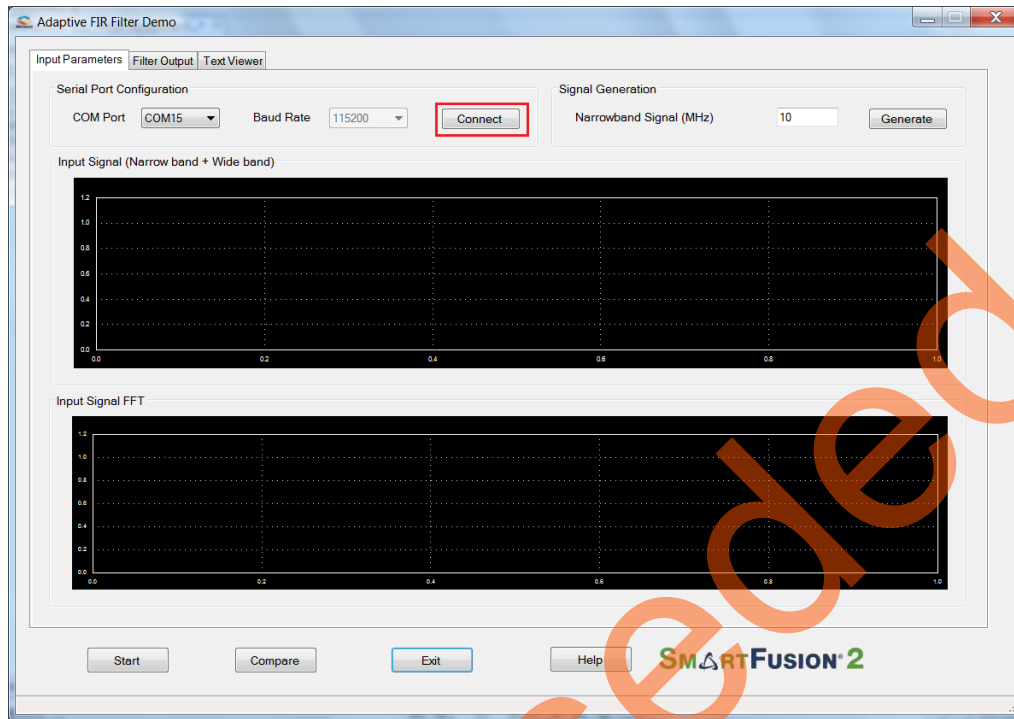

Figure 16 • Serial Port Configuration
The Adaptive FIR Filter Demo window is displayed, refer to Figure 16.
3. **Serial Port Configuration:** The COM port number is automatically detected and baud rate is fixed at 115200. Press **Connect**. Refer to Figure 16.